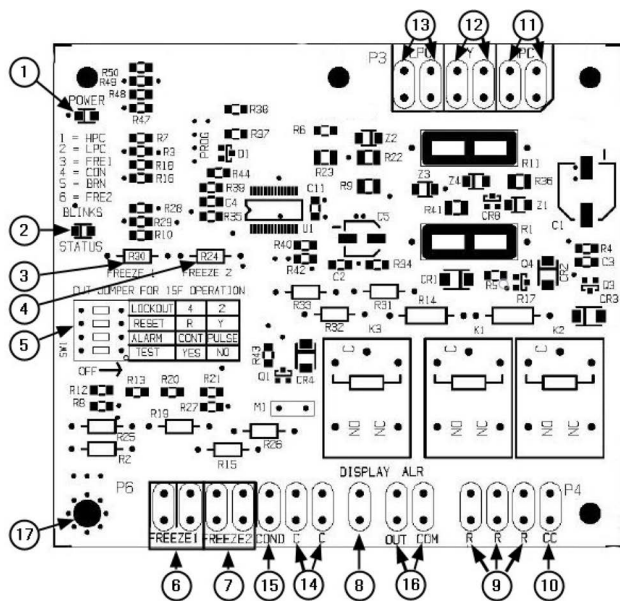

Fig. 19 — Unit Protection Module (UPM)
- UPM dry contacts are normally open (NO).
- Water-side freeze protection sensor, mounted close to condensing water coil, monitors refrigerant temperature between condensing water coil and thermal expansion valve. If temperature drops below or remains at freeze limit trip for 30 seconds, the controller will shut down the compressor and enter a soft lockout condition. The default freeze limit trip is -3.3°C; however, this can be changed to -9.4°C by cutting the R30 or Freeze1 resistor located on top of DIP switch SW1. Refer to Fig. 19, Item 3 for resistor location. If unit is employing a fresh water system (no anti-freeze protection), it is extremely important to have the Freeze1 R30 resistor set to -3.3°C in order to shut down the unit at the appropriate leaving water temperature and protect heat pump from freezing if a freeze sensor is included.